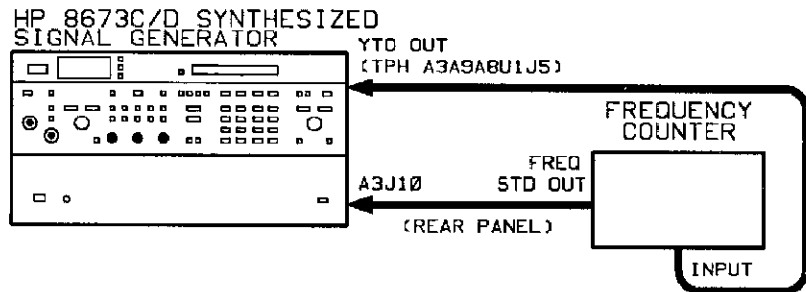

Figure 8-20. HP 8673C/D Baseband Frequency Test Setup
- 36. Disconnect the semi-rigid coax from the output of Preamplifier Assembly A3A9ASU1J5 (BD1 TPH), and connect the frequency counter in its place (frequency counter should be connected as in figure 8-20). Refer to BD1, top and bottom view drawings for test point locations.
- 39. With frequency counter connected as in figure 8-20, measure the frequency at the following test points: